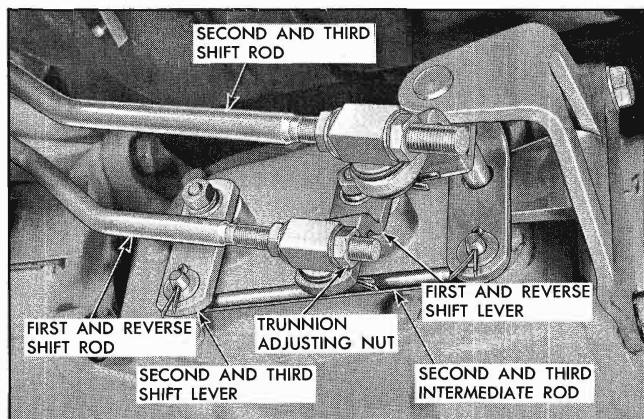

Fig. 7A-8 Gearshift Linkage
2. Disconnect shifter rods from shifter levers at transmission side cover (Fig. 7A-8).